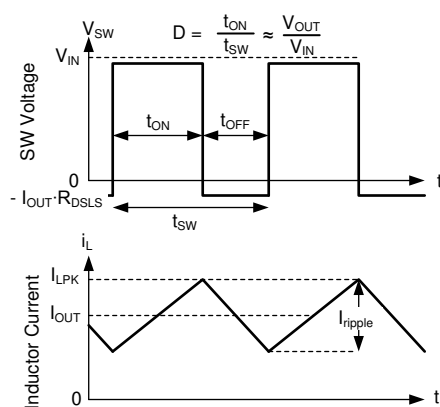

Figure 9-16. SW Voltage and Inductor Current Waveforms in Continuous Conduction Mode (CCM)
The following operating description of the device refers to Section 9.2 and to the waveforms in Figure 9-16. In CCM, the device supplies a regulated output voltage by turning on the internal high-side (HS) and low-side (LS) NMOS switches with varying duty cycle (D). During the HS switch on-time, the SW pin voltage, V_{SW} , swings up to approximately V_{IN} , and the inductor current, i_L , increases with a linear slope. The HS switch is turned off by the control logic. During the HS switch off-time, t_{OFF} , the LS switch is turned on. Inductor current discharges through the LS switch, which forces the V_{SW} to swing below ground by the voltage drop across the LS switch. The converter loop adjusts the duty cycle to maintain a constant output voltage. D is defined by the on-time of the HS switch over the switching period: